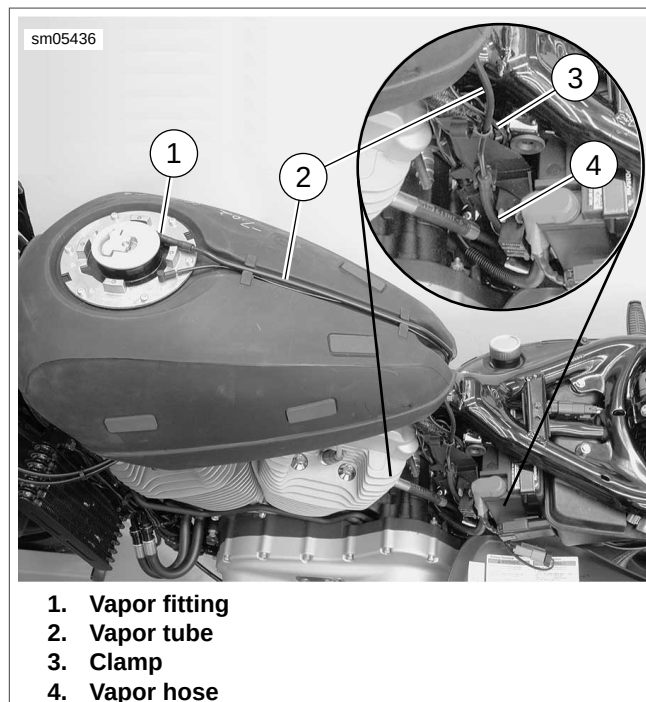
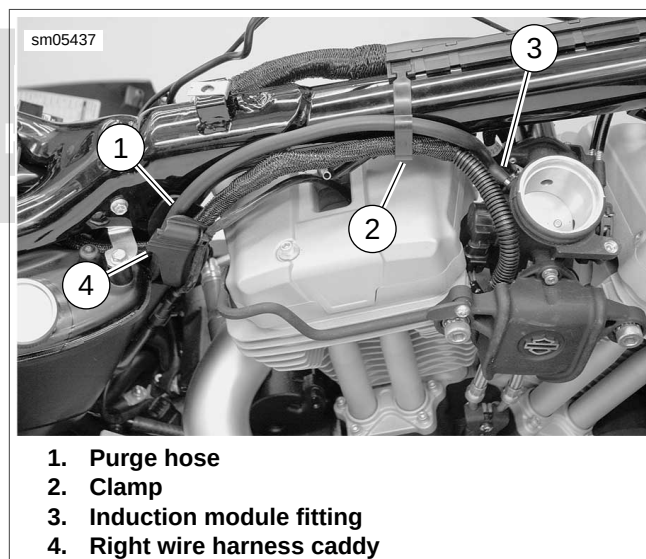

Figure 4-97. Vapor Hose Routing
Figure 4-98. Purge Hose Routing
2. See Figure 4-97. Route fuel vapor hose (4) up along left side of frame rear downtube and outside the left electrical caddy. Connect to vapor tube (2).
3. Connect vapor tube (2) to fitting (1) on fuel tank filler housing and place in channel on top of fuel tank.
4. Secure to electrical caddy with barbed clamp (3).
5. See Figure 4-98. Route canister-to-induction module purge hose (1) up right side of frame rear downtube. Continue routing hose forward along right side of frame backbone tube and down, connecting hose to induction module fitting (3).
6. Secure hose to channels on rear end of right wire harness caddy (4). Ensure that hose is positioned up against engine sub-harness. Secure hose and harness with clamp (2).